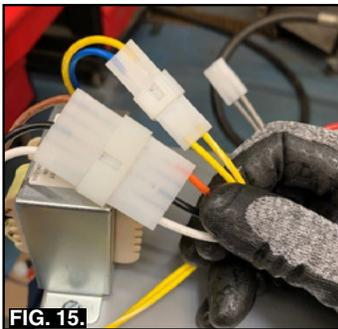

FIG. 15.
11. Connect the Stack Flu sensor. (Fig. 15)
11. Plug in the transformer. (Fig. 15).